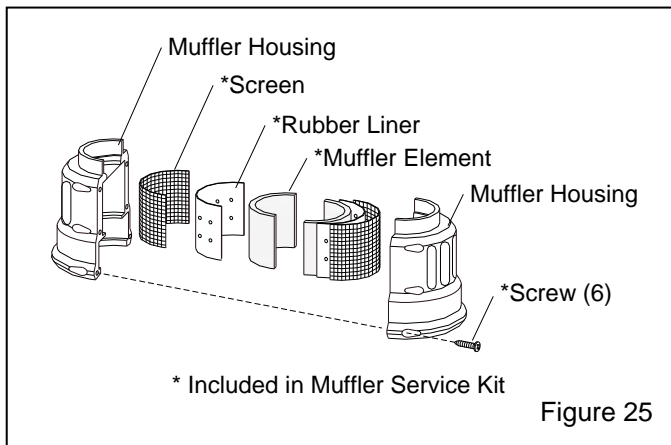

Figure 25
6.5 Exhaust Muffler, Figure 25